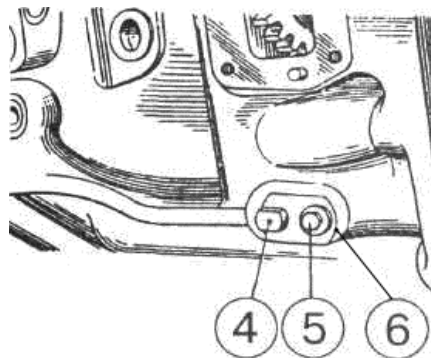

Figure 4.32
- m) unscrew bolt 5 (Figure 4.32) and remove plate 6;
- a) lubricate with consistent grease cavities of sealing rings pressed inside tap arm and driving shaft of PTO drive, as well as friction surfaces of tap arm, surface of roller 4 (Figure 4.32).